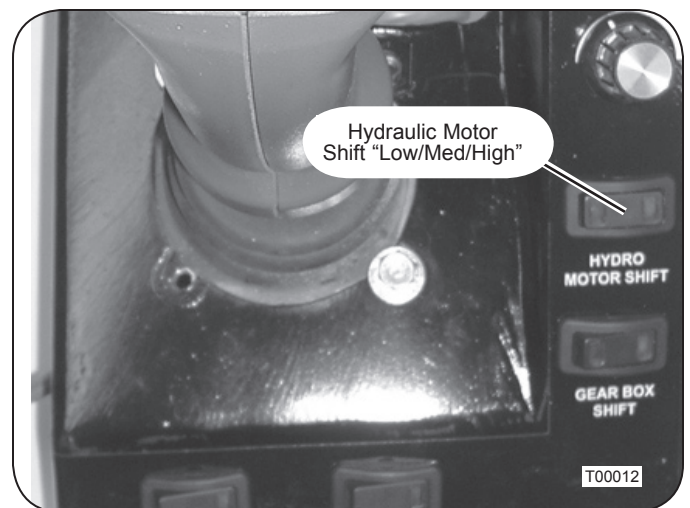

Figure 22: Hydraulic Motor Shift Control
9. Set the hydraulic motor shift control to the "High" position. See Figure 22.
6. Start engine and run at idle. Set the hydraulic motor shift control to the "High" position. See Figure 22.